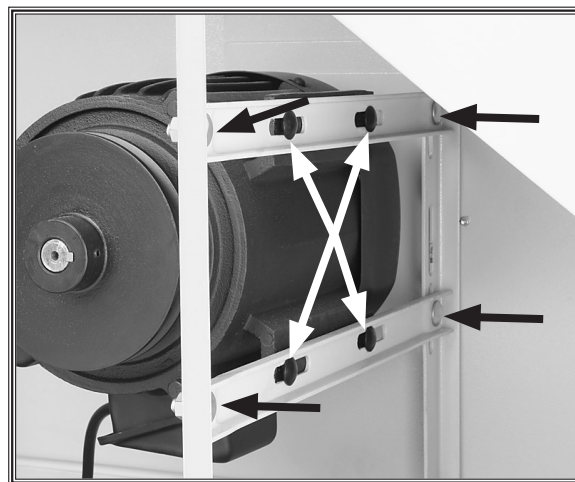

Figure 12. Motor bracket bolts (black arrows) and motor mount bolts (white arrows).
7. Loosen the motor bracket bolts shown by the black arrows in **Figure 12**.
10. Remove the V-belt and loosen the motor mount bolts shown by the white arrows in **Figure 12**.